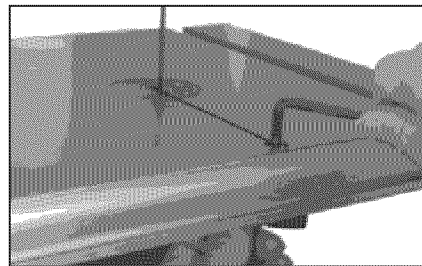

Figure 6 - Fasten Guide Rail
- Fasten the guide rail with two each star knob screw and washer to the table. Use the hex socket head cap screw, washer and wing nut for correcting the working table flatness (see Figure 6).